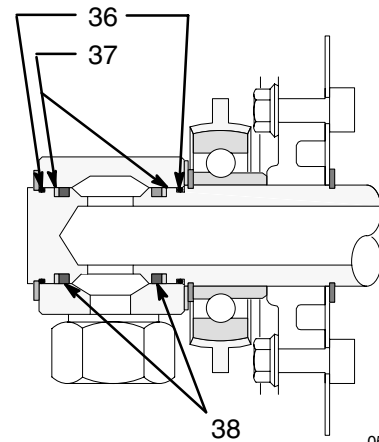

Fig. 9
2. Remove the retaining ring (35) and the swivel connector (34) (see Fig. 9).
3. Remove the o-rings (36), backup rings (37), and quad rings (38), and clean and inspect them for wear or damage.
5. Install the parts as shown in Fig. 9.